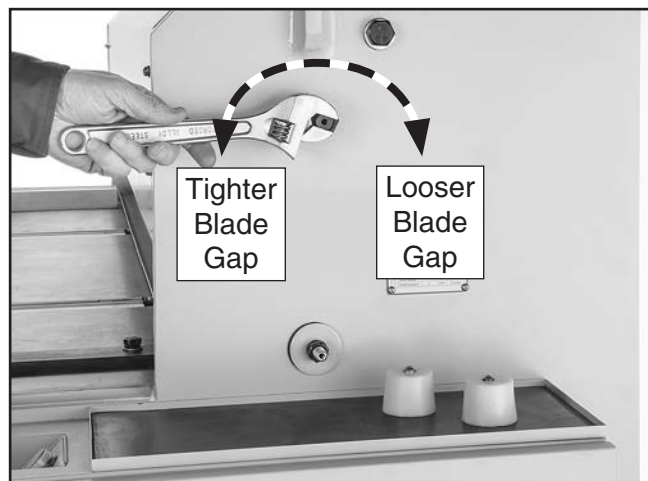

Figure 57. Adjusting blade gap with blade guide eccentric cam (right side).
- Use feeler gauge to measure gap along length of blades. Turn eccentric cam, as shown in **Figure 57**, to adjust gap to 0.002" along blade length.